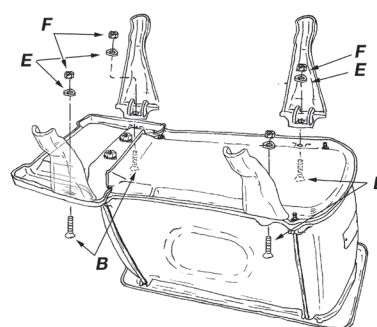

Figure 3 – Leg Assembly
5. The leg bolts (B) pass through the clearance holes in the base of the stove, figure 3, through the legs and then are secured with flat washers (E) and hex nuts (F).